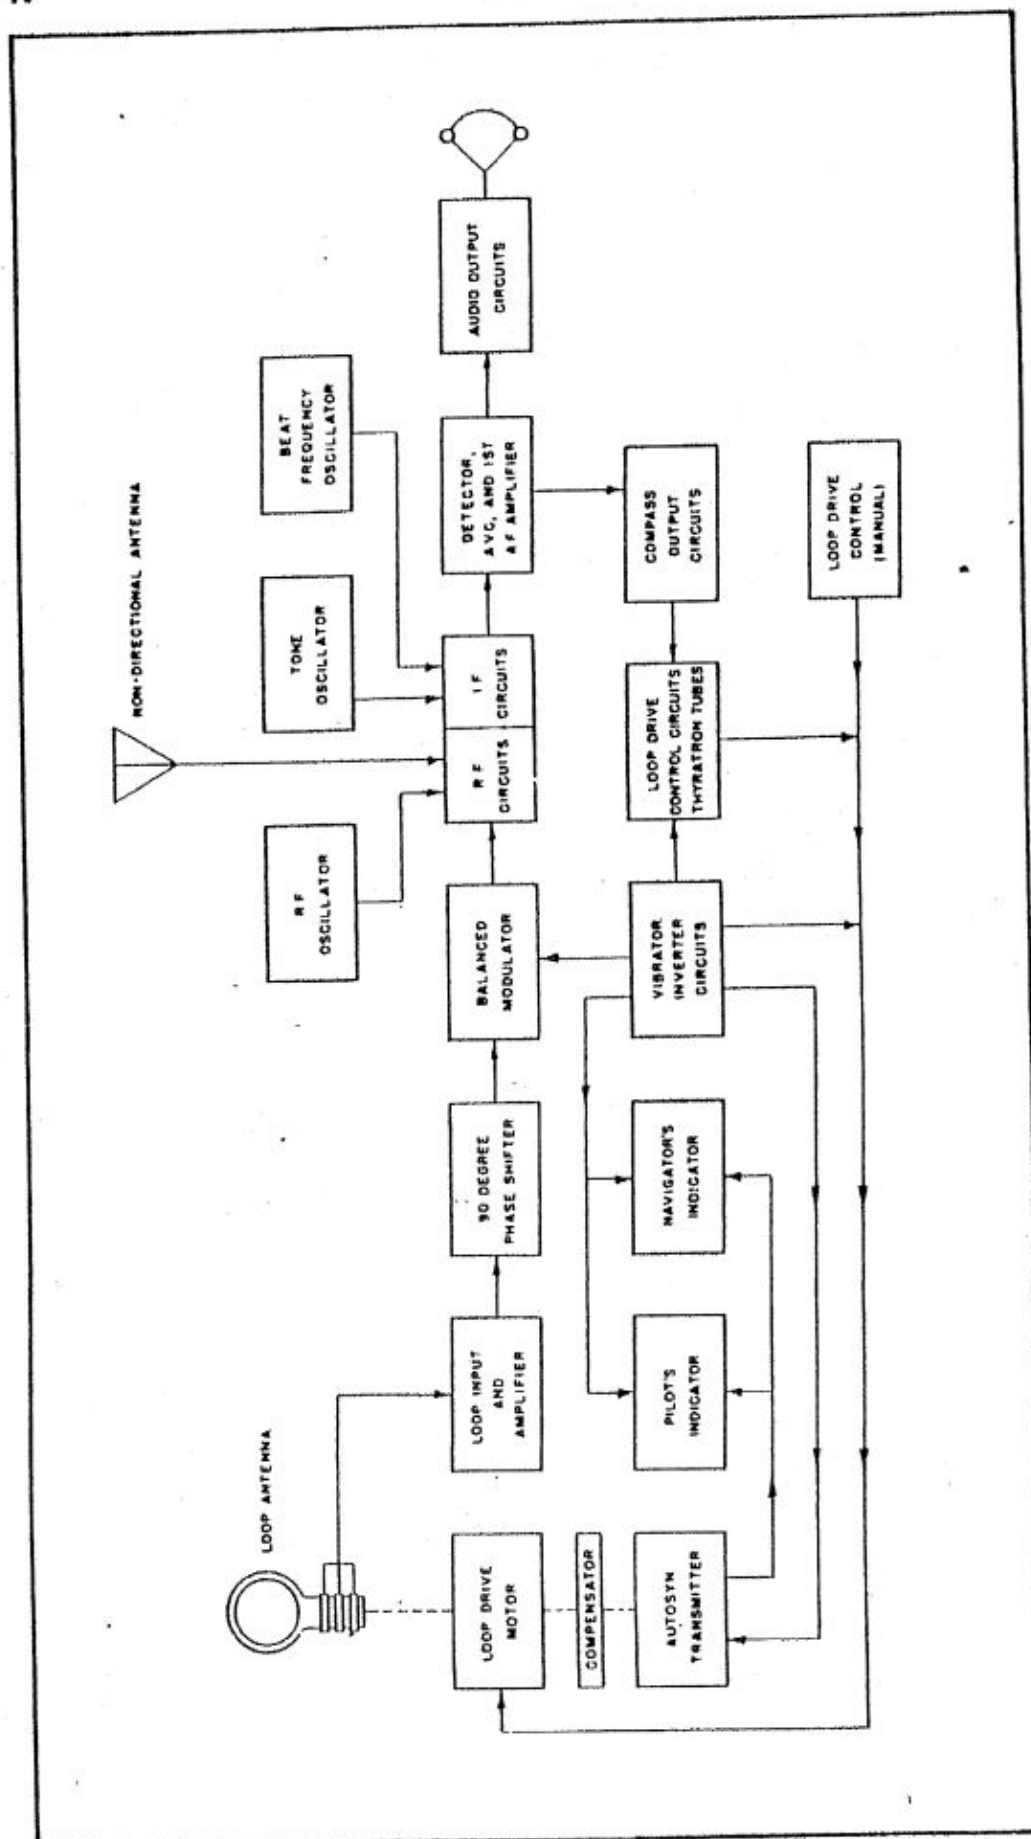

Figure 4-2. Functional Block Diagram
b. OVERALL FUNCTIONING OF EQUIPMENT.—The general functioning of the equipment is outlined in the block diagram, figure 4-2. The directional loop receives a signal which passes through a stage of preamplification. The phase of the signal is retarded 90 degrees, for reasons described in detail later, and then is fed to both grids of a dual-triode tube used as a balanced modulator, with 100-cycle push-pull modulation. The modulated signal is combined with the signal from the sense, or nondirectional, antenna, and the result goes through a more or less conventional superheterodyne receiver. The detected signal is fed to two independent output circuits, one for listening, and the other for automatic control of the loop drive motor. The position of the loop is remotely shown on the indicators. The manner in which these results are obtained is described fully in paragraphs 2 and 3, following.